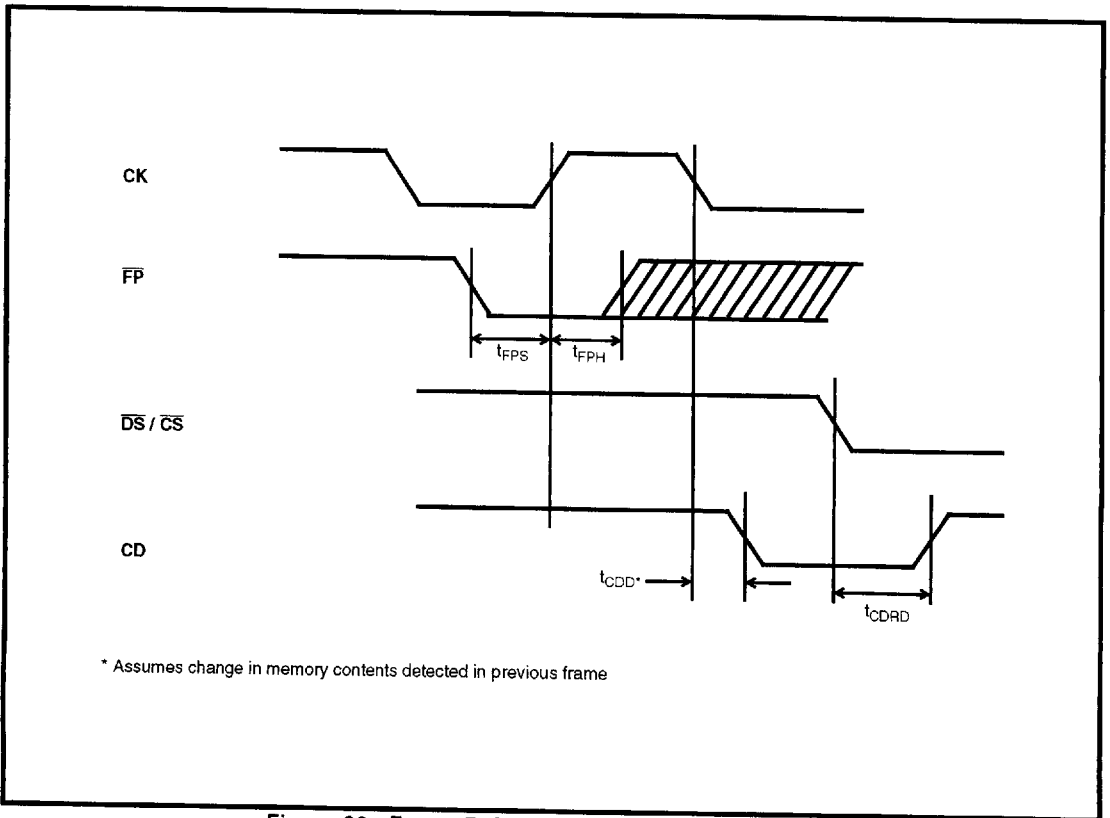

Figure 30 - Frame Pulse and Change Detect Timing
**AC Electrical Characteristics† - Frame Pulse, Clock and Change Detect Timing (See Fig. 30)** - Voltages are with respect to Ground ( $V_{SS}$ ) unless otherwise stated.